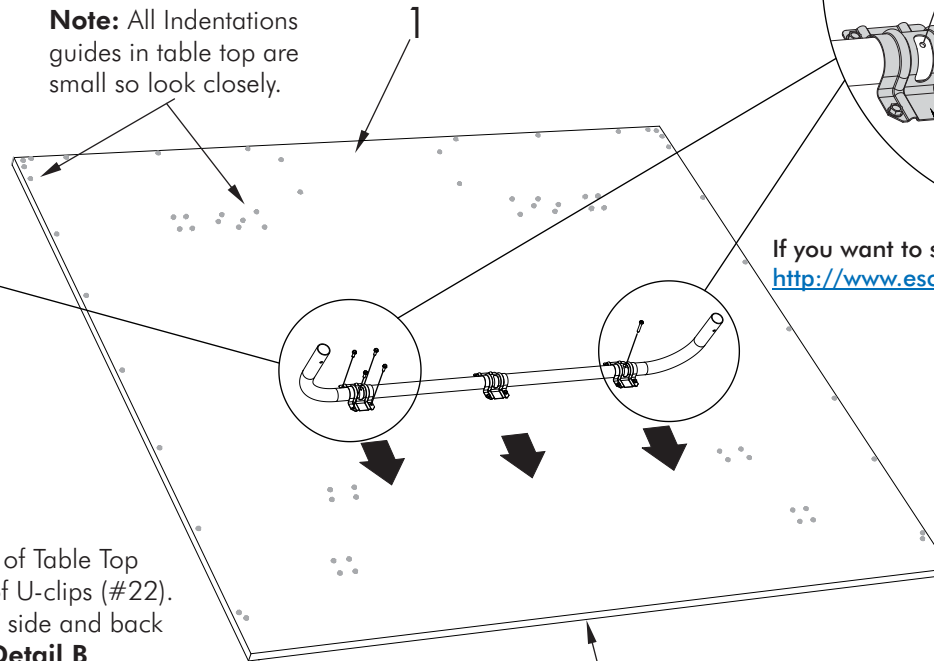

Figure 5
6. Align the "U" Support (#21) on Table Top (#1) as shown in **Figure 5**.
7. Align all four holes in each U-Clip (#22) with the four Indentations in table top. Be sure that Slot in the Three U-Clips (#22) all face the same direction toward the end of the table with no stripe and no Indentations. Secure U-Clips (#22) with Screws (#5) as shown in **Figure 5 & Detail A**.
8. Rotate U-support (#21) that is on bottom of Table Top until you see the screw holes in the slots of U-clips (#22). If necessary Slide U-support (#21) side to side and back and forth to see holes. See **Figure 5 & Detail B**.
9. Insert Screw (#35) through slot in U-clip (#22) and into U-support (#21). See **Figure 5 & Detail B**. Thread screw all the way into U-support until it touches the back of the tube. There should be about 3/8" of screw (#35) left sticking out. Repeat for second Screw (#35) and U Clip (#22).